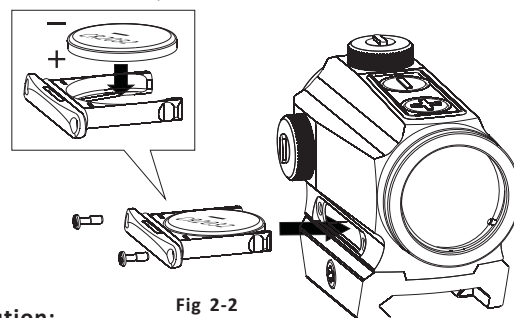

Fig 2-2
- 2) Battery installation (Fig 2-2):